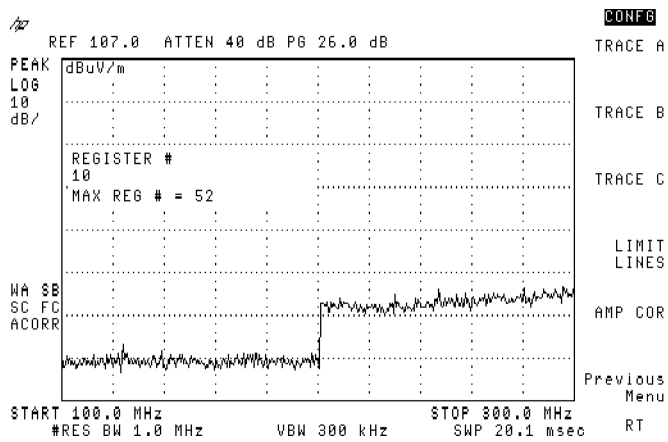

Figure 3-92. INTRNL TRACE Softkey Screen
- Press 10, **ENTER** (same as the **Hz** key in the analyzer's lower-right corner) to save the transducer factors to internal register 10. See Figure 3-92.